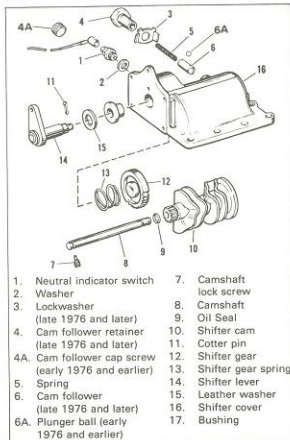
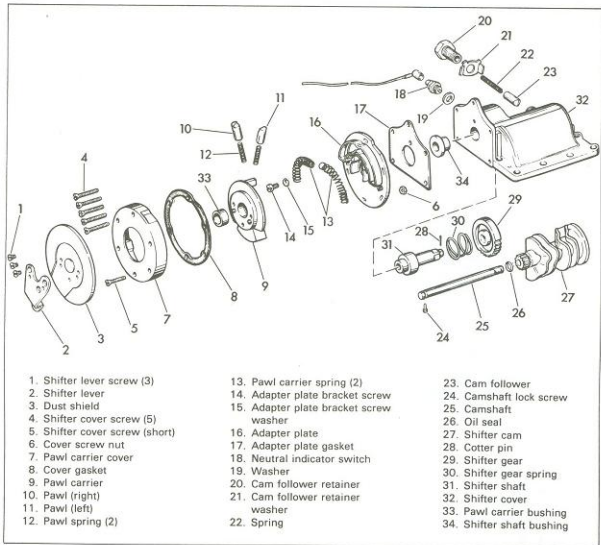
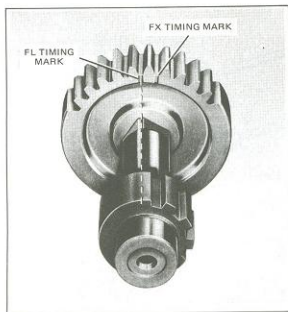

Figure 4-11. Hand Shifter Cover - Exploded View
Figure 4-12. Foot Shifter Cover - Exploded View
Figure 4-13. FLH Timing Shifter Gear
Disassemble shifter cover parts 1 through 12 as described in "Disassembling Shifter Cover (Foot Shift)," see Figure 4-11. Time shifter notches as illustrated in Figure 4-13. Loosen screw (14, Figure 4-11) and rotate adapter plate (16) until timing notch (Figure 4-13) in adapter plate, located at bottom of shifter gear hole, lines up with notch between two shifter gear teeth. Make alignment exact, then tighten adapter plate bracket screw to lock in position. This adjustment can be made with shifter in any gear (not neutral).
DISASSEMBLING SHIFTER COVER (HAND SHIFT) (Figure 4-11)
CLEANING, INSPECTION AND REPAIR (Figure 4-11)
ASSEMBLING SHIFTER COVER (HAND SHIFT) (Figure 4-11)
DISASSEMBLING SHIFTER COVER (FOOT SHIFT) (Figure 4-12)
CLEANING, INSPECTION AND REPAIR (Figure 4-12)
ASSEMBLING SHIFTER COVER (FOOT SHIFT) (Figure 4-12)
Note position of the timing mark (Figure 4-13). This is the proper timing alignment.
Refer to Figure 4-12. Position shifter gear (29) and spring (30) in case, so side of gear with timing mark is toward case. Insert shifter shaft (31) so parts are timed as shown in Figure 4-13 and tap parts together. Insert cotter pin (28).